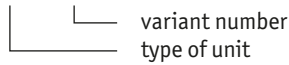

*Fig. 1: Spring casing*
- ▶ Do not open the springcase of the wire-actuated encoder (see Fig. 1).